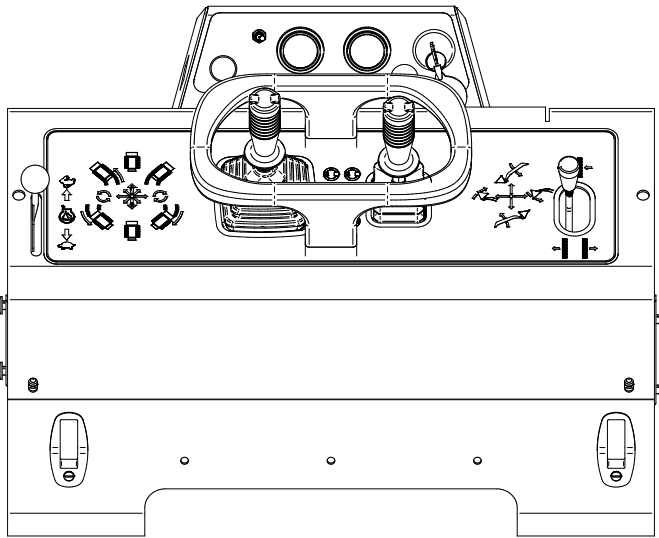

Figure 3-12 Throttle Settings
3. Move the throttle lever (Item 1, Figure 3-12) to about half way between fast and idle engine speeds.